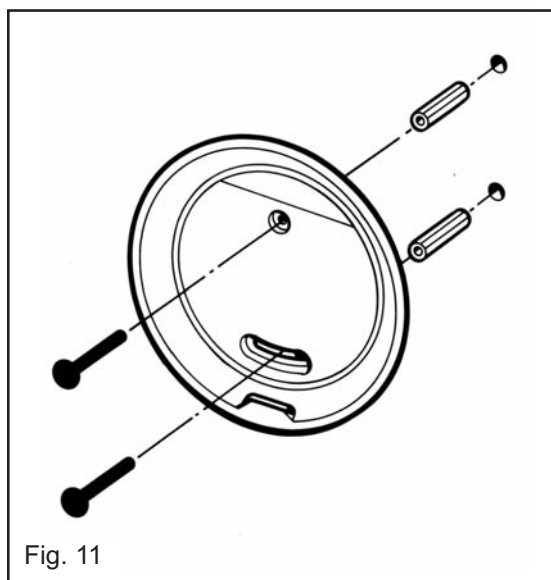

Fig. 11
- Use rawplugs and screws supplied to fix the backplate to the wall (fig. 11).